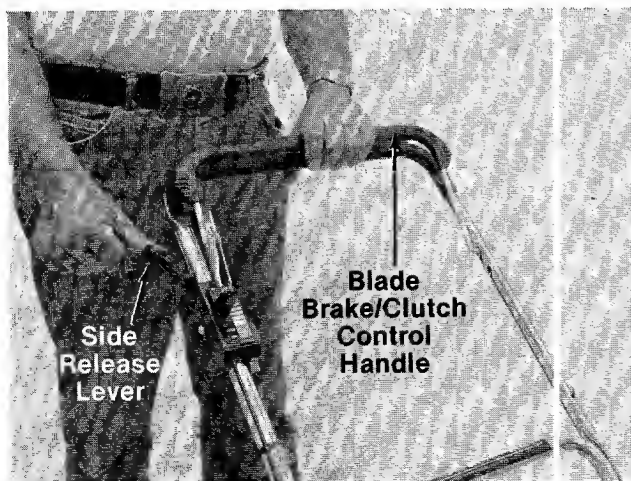

FIGURE 12.
- b. Push release lever (see figure 12), then squeeze blade control handle against upper handle.
To engage the blade, pull the side release lever away from the unit. See figure 12. Pull the clutch control handle against the upper handle. Release side lever.
2. To engage the blade, pull the side release lever away from the unit. Pull the blade brake/clutch control handle down against the upper handle. Release the side lever. See figure 12.